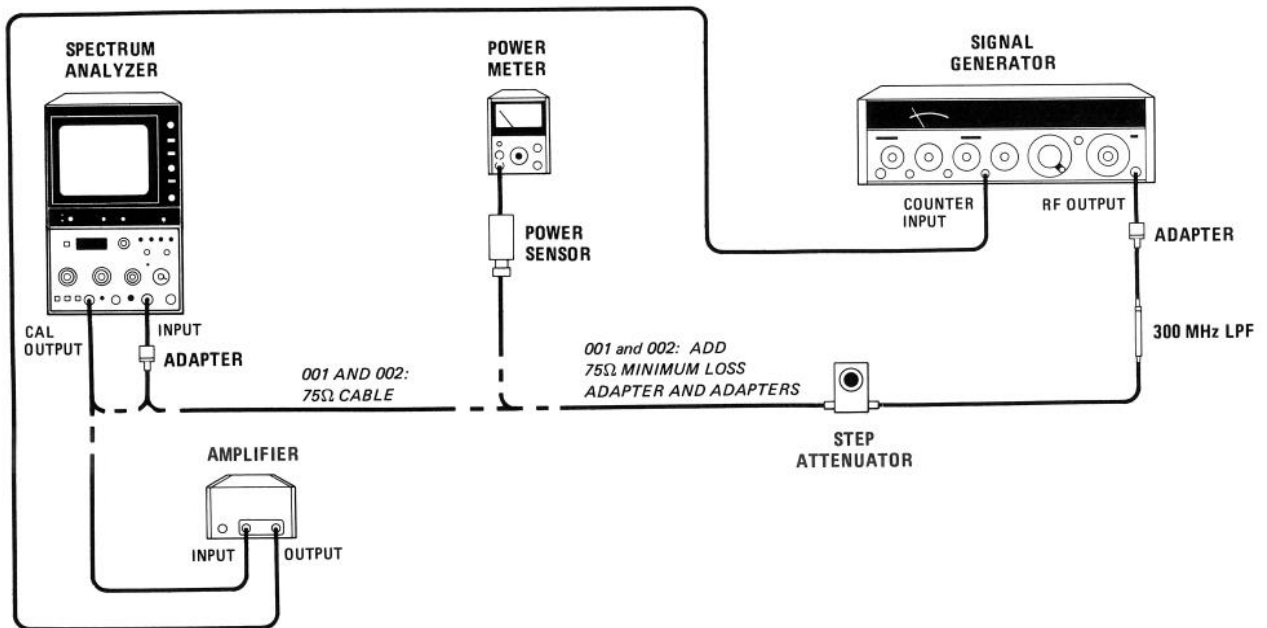

FIGURE 4-20. CALIBRATOR ACCURACY TEST SETUP
4. Set step attenuator to 10 dB and connect power sensor and power meter to attenuator as shown in Figure 4-20.